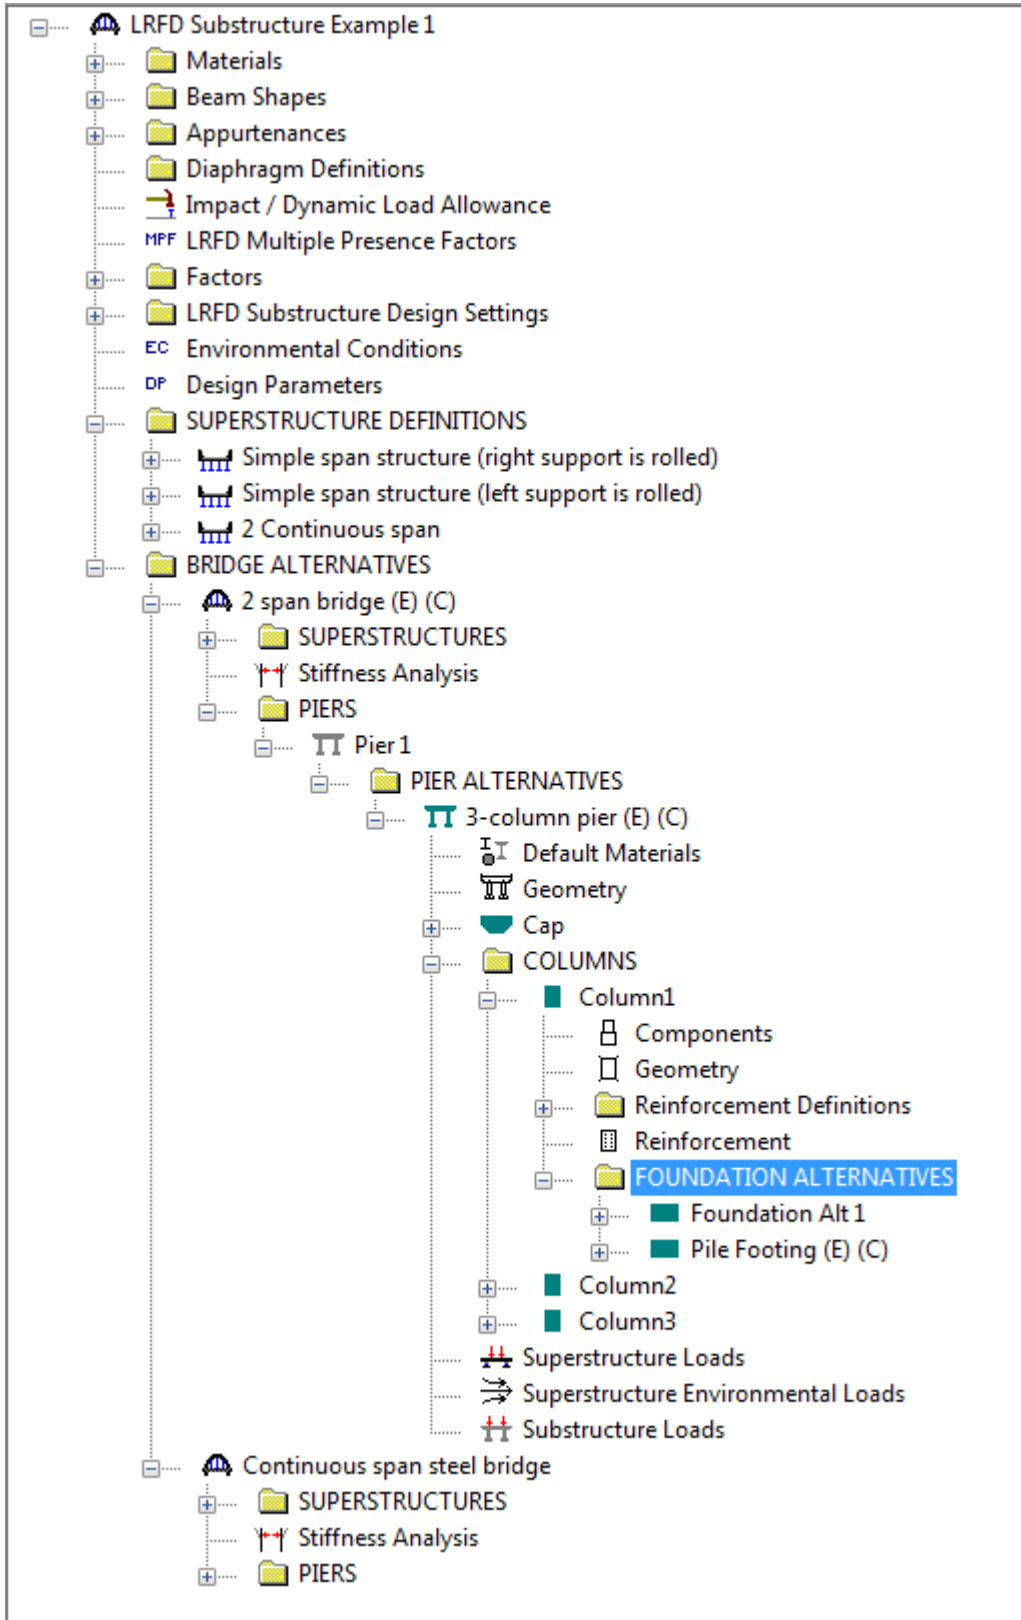

Fig 2. Bridge Workspace Tree – Foundation Alternatives
Expand “3 – column pier (E)(C)” by clicking on “+” and select “Column1” under COLUMNS. Select “FOUNDATION ALTERNATIVES” and expand it. Now the Bridge Workspace tree will be as shown in Fig 2.